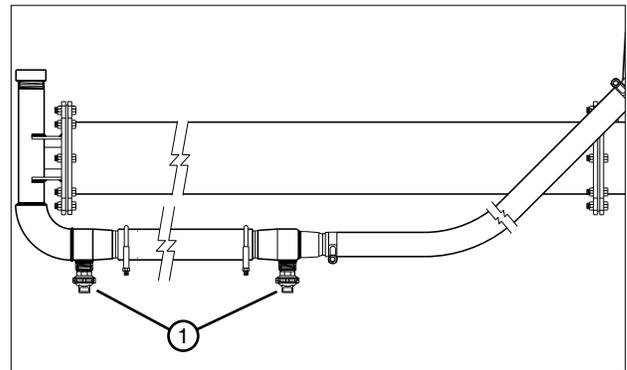

Figure 49-2 1. Booster Pump Hose Drain
- Make sure the booster pump hose drain is not plugged with sand. See figure 49-2.